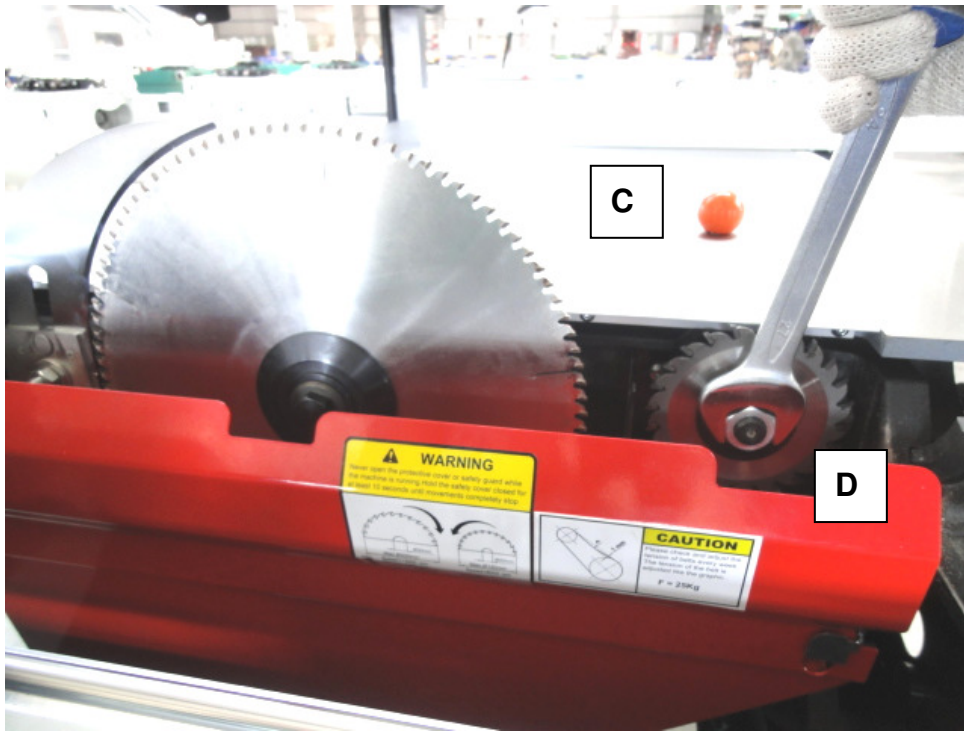

Figure 3-10.2
5. Hold the spindle in a fix position by inserting the fixing bar C(Fig. 3-10.2)
9. Fit the scoring blade, flange and nut then tighten nut D(Fig. 3-10.2)